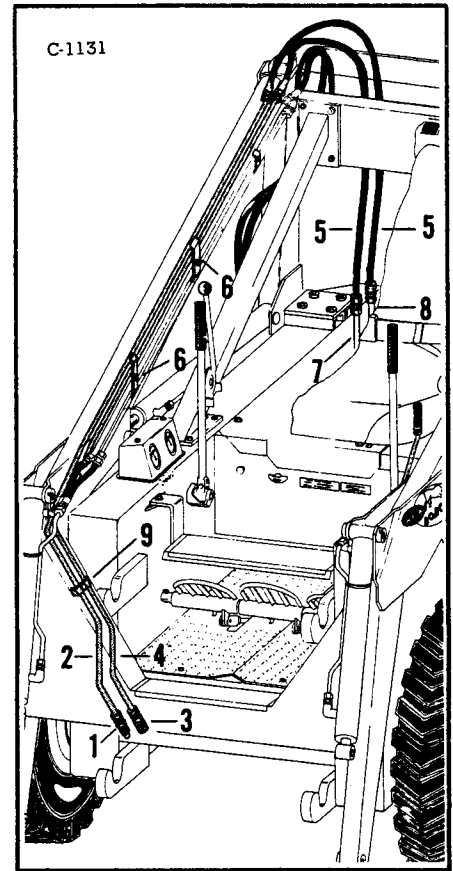

Fig. 165 Mounting Auxiliary Kit
- With two 1/2" NPT x 1/2" 37° Flare straight adapters connect the male half of the quick coupler (Figure 165, Item 1) to the longer tube (Item 2) and the female half of the quick coupler (Item 3) to the shorter tube (Item 4) and tighten securely.